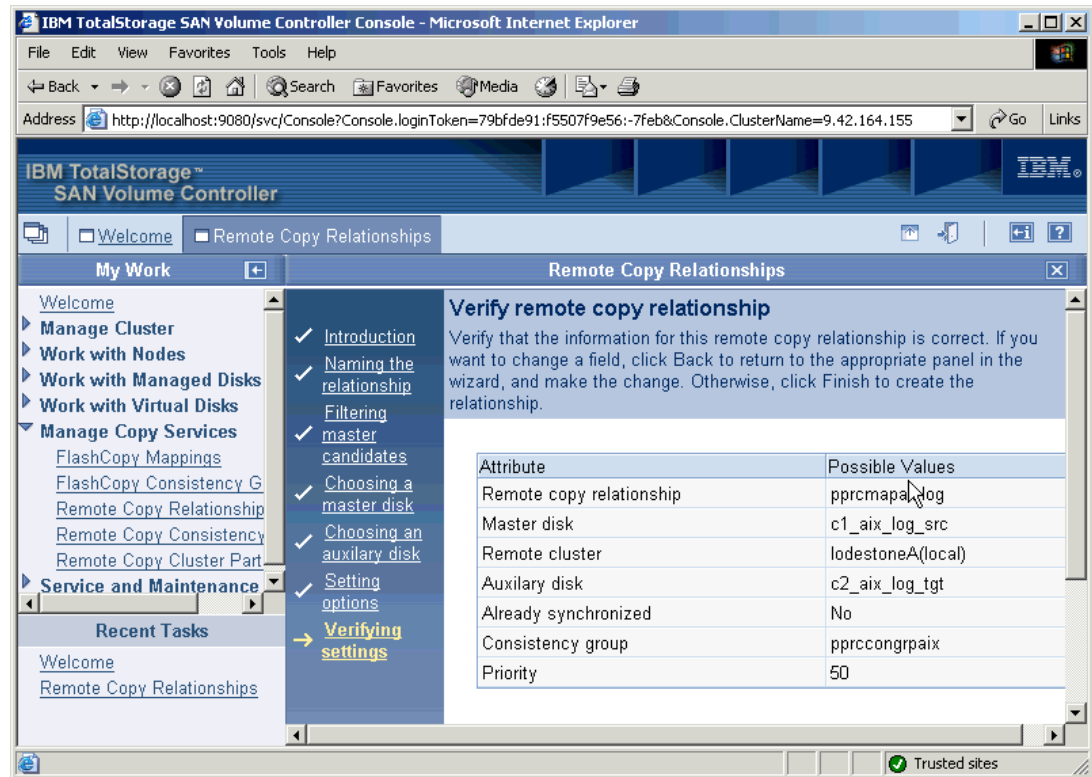

Figure 11-24 Verify remote copy relationship
- On the Verify remote copy relationship panel (Figure 11-24), verify all the settings that you have chosen.